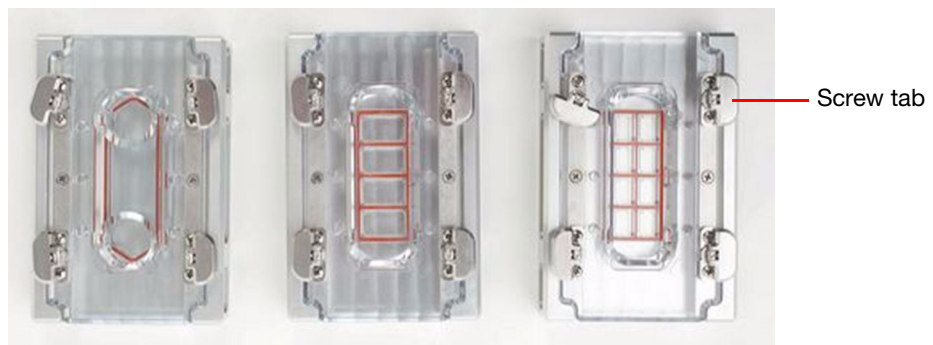

Figure 10 SOLiD™ Deposition Chambers: 1-Well, 4-Well, and 8-Well.
9. Immediately place the SOLiD™ 4 or Opti Slide Carrier assembly into SOLiD™ Deposition Chamber base, then place the appropriate SOLiD™ Deposition Chamber lid on top (see Figure 10).